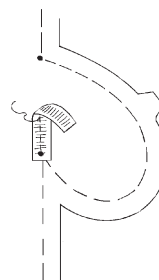

Fig. 7-11
1. To prevent stretching along the pocket edge, reinforce the fold line with seam tape. (Fig. 7-11)